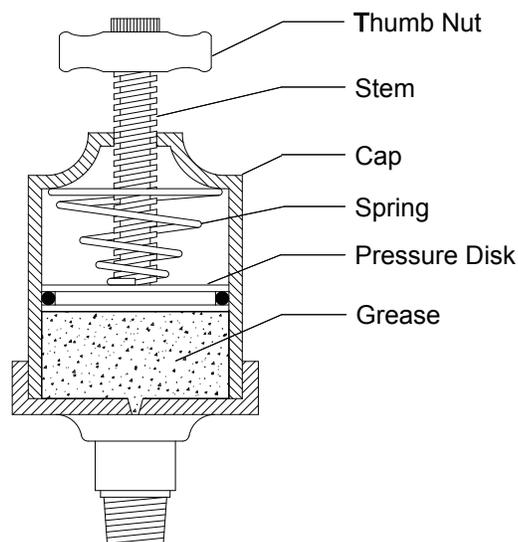

Figure 1 – Automatic Pressure Lubricator Components
- B. Check automatic pressure lubricator at pump. If the stem is fully extended, with thumb nut all the way up, the automatic pressure lubricator contains lubricant. If the lubricator does not contain lubricant, the lubricant must be replaced by using the following procedure (see Figure 1, page 9):